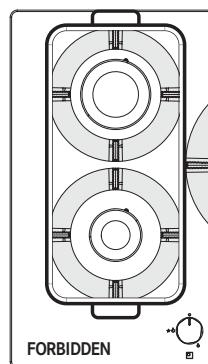

Fig. 1
The use of larger pots than those specified can cause excessive overheating of the knobs and top and, in case of prolonged use, yellowing of the cover (if in stainless steel). Franke declines any liability for damage due to such use (Fig. 1).
- ▷ Do not put the same pan on two burners (Fig. 1).
- ▷ Do not use two burners working at the same time with a single container, like a saucepan or a fish pan (Fig. 1).